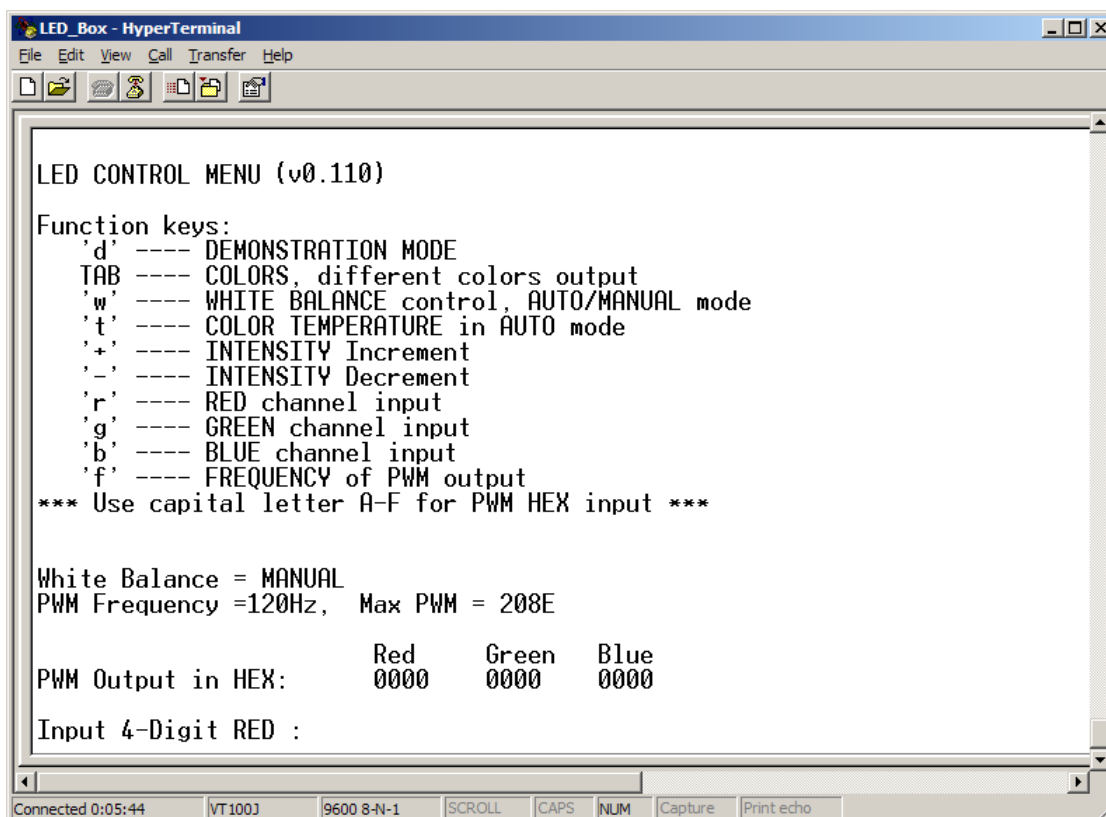

Figure 4-2. LED Control Menu
6. After configuring HyperTerminal, the LED Control Menu screen appears as shown in Figure 4-2.
1. Press the reset button SW5 on DEMO9S08AW60LED board. The LED control menu screen appears (Figure 4-2).